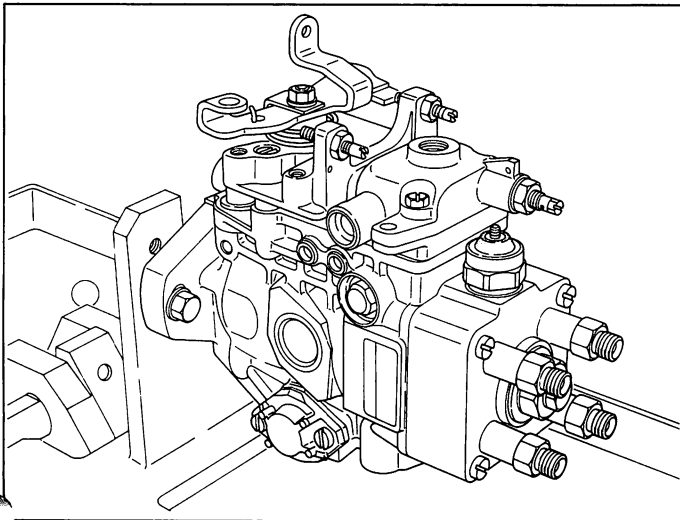

Fig. 3 Attaching the injection pump
4. Attach the injection pump to the bracket (157944-7920) using the two bolts. (Fig. 3)